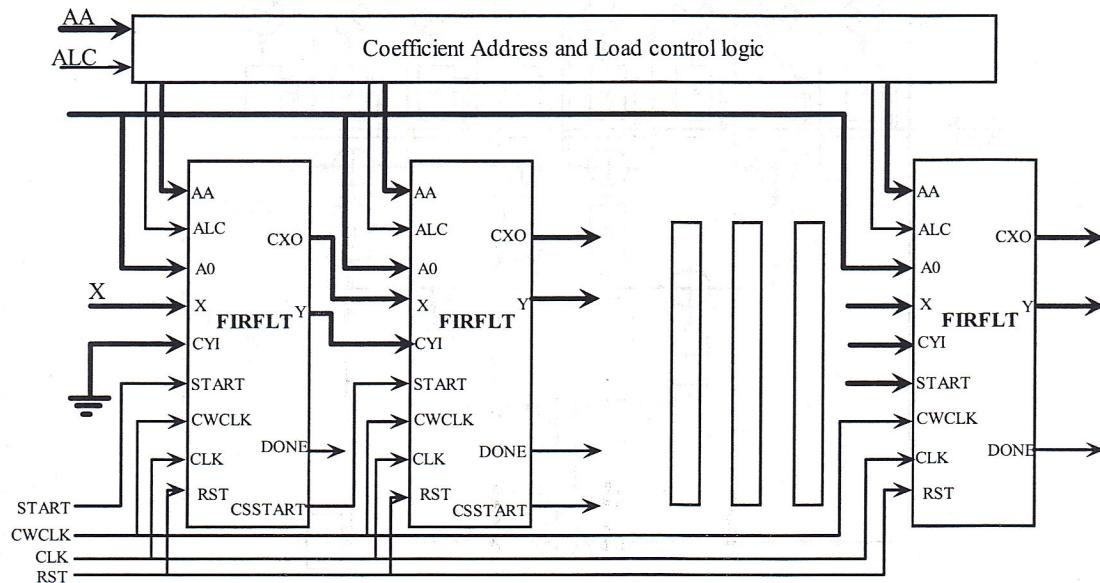

FIGURE 7: Cascading Multiple FIR Filters
Multiple FIR filter cores may be cascaded together to build filters with large numbers of taps, as shown in Figure 7. There is no requirement for additional logic on the data path of the cascaded cores. A small portion of control logic is needed to generate the coefficient loading address and control signals for each of the cascaded cores.
The X signal in figure 7 is the input and the output 4 clock cycles later is Y. The first Y output is during the fifth clock cycle since there are 4 pipeline delays in the FIR filter for data selection rate (RS) 1.